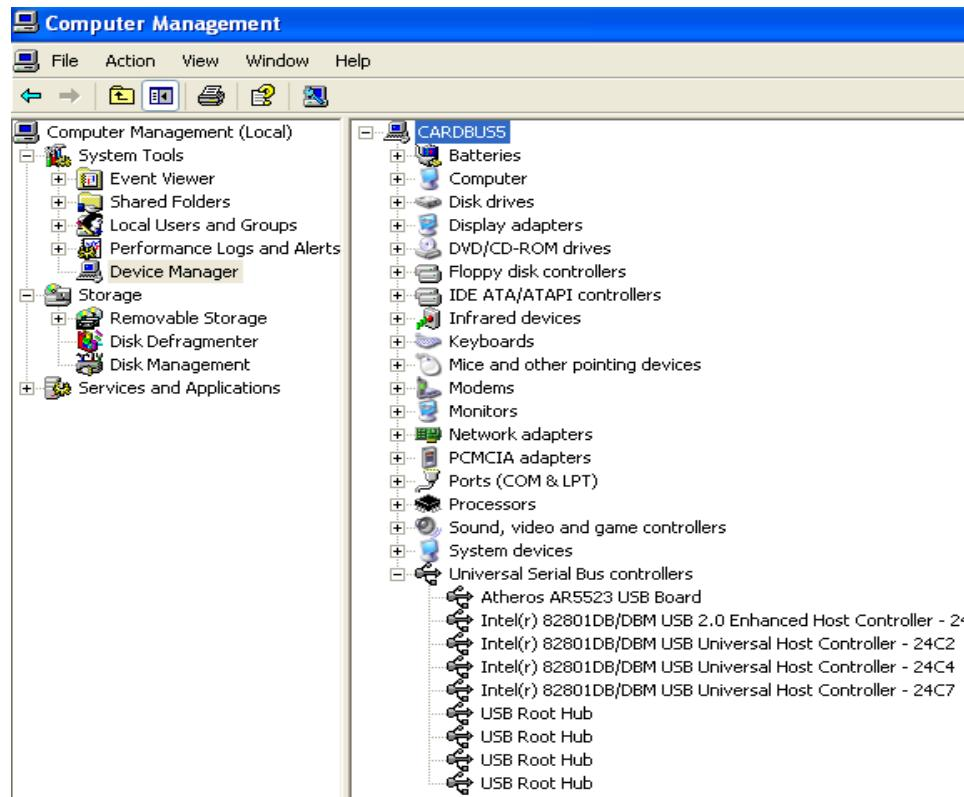

Figure 3-1. Successful Installation of AR5523 USB device in Device Manager
c. Once the device is installed and ready for use, use the device manager to find the string “Atheros AR5523 USB Board” under the USB controllers section, as shown in Figure 3-1
For a pre-built ART client executable image, update the %SystemRoot%\system32\drivers\ar5523.bin with the new image, then unplug and re-plug in the device. Check that the devices are installed as shown in Figure 3-1.